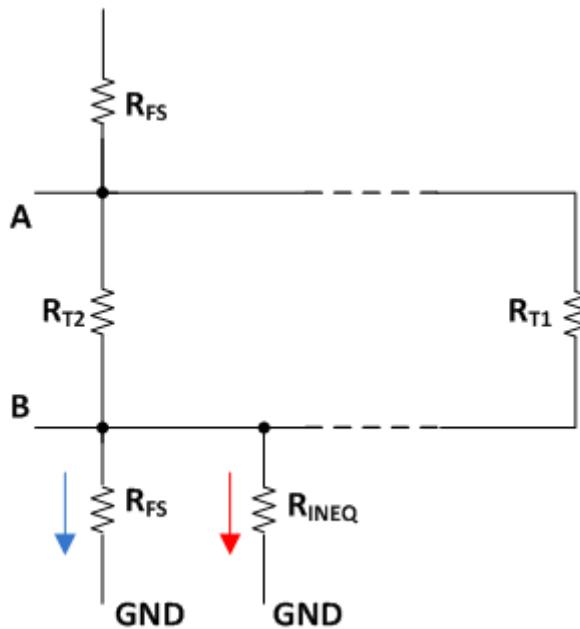

Figure 3. Auto-polarity RS-485 Bus Network Showing Loading Conditions
After you have obtained all resistor values, you can evaluate their impact on the system. In the RS-485 standard, 375 Ω represents the maximum loading of the bus (R_{INEQ} in Figure 3), or (1/375) S in conductance. Assume the bus voltage is 1 V. This means that the most leakage current the bus can take is about 2.67 mA single-ended.
RS-485 specifies a term of unit load (UL) to represent a load impedance of approximately 12 k Ω . If each node has a 96 k Ω input resistance (1/8 UL), it would take 256 nodes to generate equivalent leakage. 900 Ω R_{FS} takes 1.11 mA away from the total current budget (the blue arrow in Figure 3). Therefore, the nodes on the bus can have a maximum leakage of 1.56 mA (the red arrow in Figure 3). 1.56 mA divided by 104 μ A (1 V/96k Ω) is equal to 149 nodes.